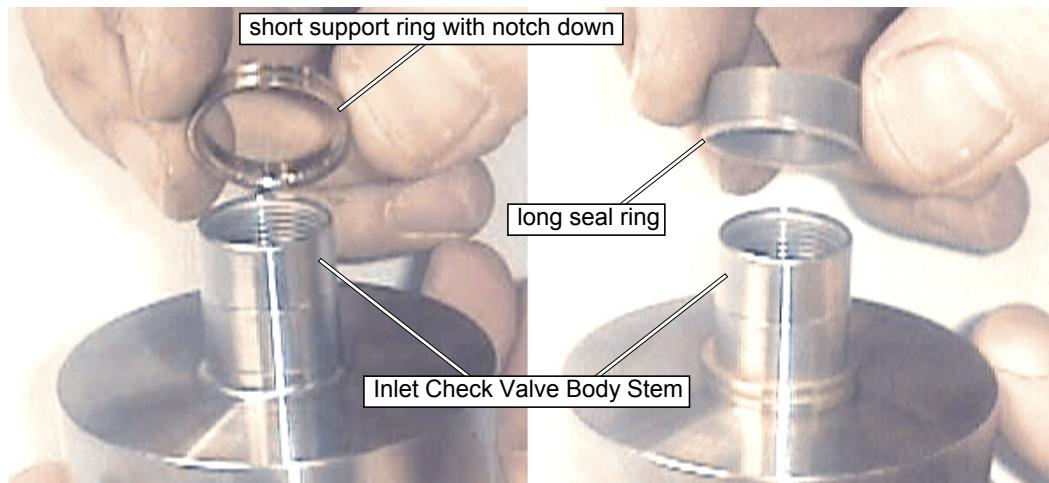

Figure 6-26
8. **Begin assembling the inlet side of the check valve body assembly.** This is the side with the threaded pocket and two holes (figure 6-26).
10. Install **long seal ring** over outside of the **stem** (Figure 6-26).